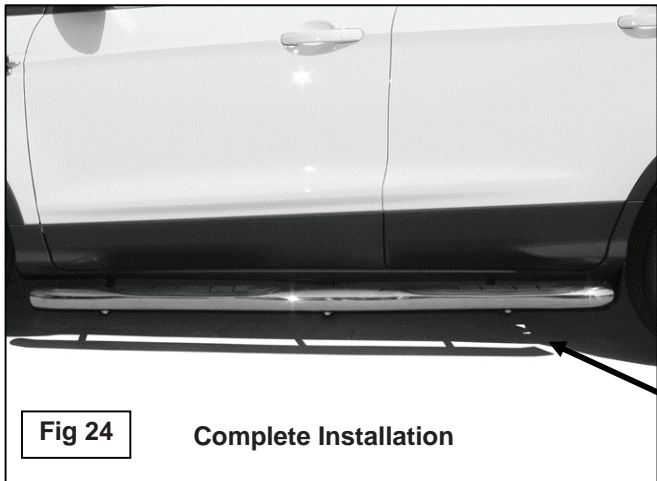

Fig 24 Complete Installation
- Carefully unwrap and select the driver Sidebar. Place the Sidebar in position on top of the (3) Brackets. **NOTE:** It may be necessary to loosen the Brackets slightly to line up the cradles with the threaded inserts in the Sidebars. Bolt the Sidebar to the Brackets with (6) M10 x 30mm Hex Bolts, (6) M10 Lock Washers and (6) 10mm flat washers, **(Fig. 24)**.